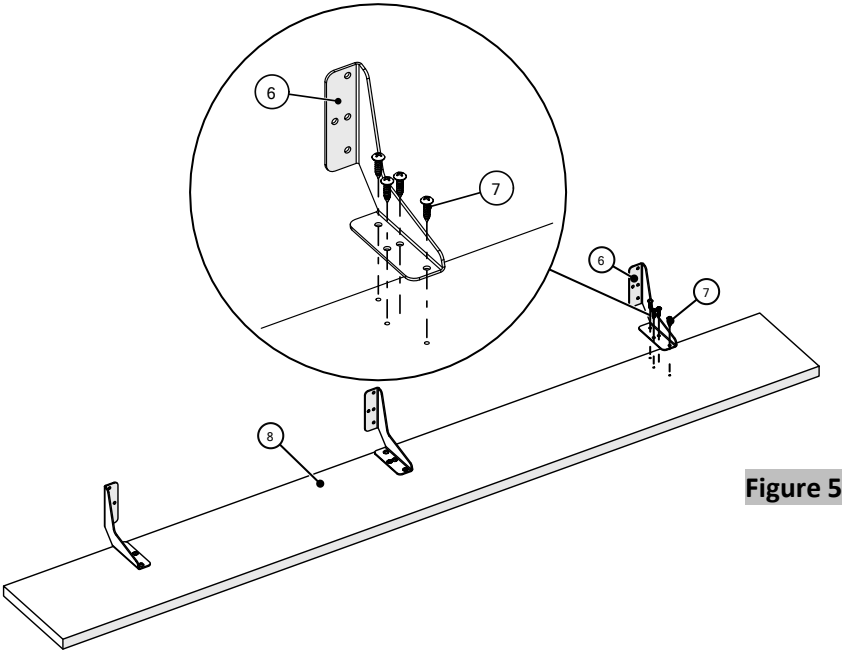

Figure 5
Position the cantilever bracket over pilot holes of modesty; insert (4) #8 x 5/8" Pan Quadrex drive screws per bracket and tighten, (Figure 5).